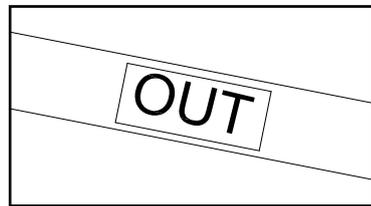

Fig. 3
Fig.3: Connect bridge top (B) with support beam (D) and side panel (C) (the end marked with "out" point to side panel (C)) by using flat washer (BB), spring washer (FF) and nut (EE), but do not tighten them at this step.